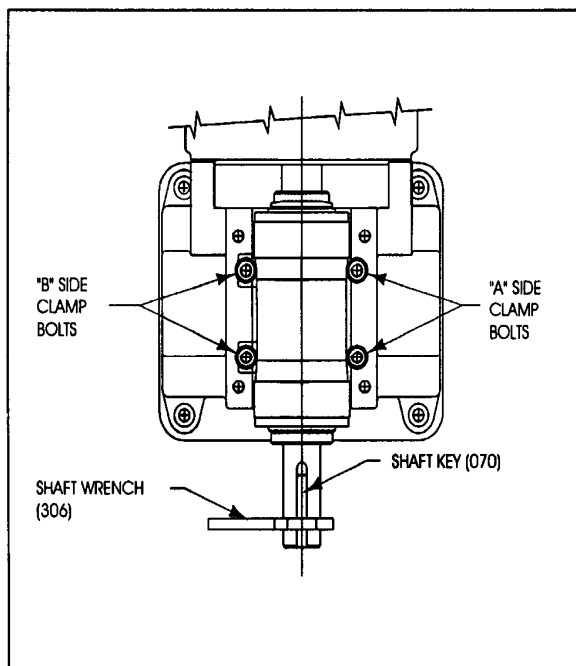

Figure 6-18 • Shaft Key and Clamp Bolts
- a. Check CLAMP BOLTS (012) on side of base (see *Figure 6-18*) to ensure they are just tight enough to hold the bearing assembly horizontal, but not to lock it. Assuming the shaft is bare, fit SHAFT KEY (070) in keyway and bolt SHAFT WRENCH (306) onto the shaft. If the pump is installed, remove v-belts or separate coupling hubs.
- b. Obtain correct type of IMPELLER as specified for particular application. **Note:** Elastomer impellers must be fitted with a BOSS CAP (359). To keep it in position during assembly tape it to the impeller hub. Apply anti-seize lubricant to the thread. Lift the impeller with a rope hoist, and screw it onto shaft. Use a bar between vanes and turn shaft to tighten impeller. Be careful not to damage the various o-rings on the shaft during assembly.
6. Fit THROATBUSH (083).
- a. Screw and tighten studs (274) in tapped bosses provided in THROATBUSH.
- b. Lift THROATBUSH carefully into position, line up studs with holes in COVER PLATE (013) and push into cover plate. Fit nuts onto studs. Ensure volute liner seal installed above remains in place.
7. Fit COVER PLATE LINER (018).
- a. Screw and tighten studs (023) in tapped bosses provided in cover plate liner.
8. Fit COVER PLATE (013).
1. Obtain the correct type of IMPELLER as specified for the particular pump application. **Note:** Elastomer impellers have a BOSS CAP (359). To keep it in position during assembly tape it to the impeller hub. Rest the impeller (boss up) on a flat surface. Apply anti-seize lubricant to the impeller thread.
2. Check CLAMP BOLTS (012) on side of base (see *Figure 6-18*) to ensure they are just tight enough to hold the bearing assembly horizontal, but not to lock it. Assuming the shaft is bare, fit SHAFT KEY (070) in keyway and bolt SHAFT WRENCH (306) onto the
3. Check CLAMP BOLTS (012) on side of base (see *Figure 6-18*) to ensure they are just tight enough to hold the bearing assembly horizontal, but not to lock it. Assuming the shaft is bare, fit SHAFT KEY (070) in keyway and bolt SHAFT WRENCH (306) onto the shaft. If the pump is installed, remove v-belts or separate coupling hubs.
1. Check CLAMP BOLTS (012) on side of base (see *Figure 6-18*) to ensure they are just tight enough to hold the bearing assembly horizontal, but not to lock it. Assuming the shaft is bare, fit SHAFT KEY (070) in keyway and bolt SHAFT WRENCH (306) onto the shaft. If the pump is installed, remove v-belts or separated coupling hubs.
1. Loosen CLAMP BOLTS (012) on Side 'B' only, as shown in *Figure 6-18*, except on 8/6 AH or larger pumps, when such are fitted with mechanical seals. In this case loosen only the clamp bolt furthest from the pump shaft end. This will ensure the bearing assembly will not lift up on one end, resulting in possible damage to the mechanical seal faces. A maximum .010" rise at the bearing assembly drive end is allowed.
4. Tighten CLAMP BOLTS (012) on side 'B' as shown in *Figure 6-18* per *Table 6-4*. Bolts on side 'A' were tightened earlier.